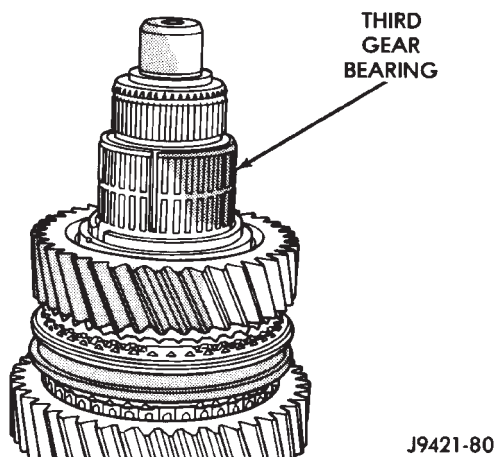

Fig. 73 Third Gear Bearing Installation
(27) Install third gear needle bearing on shaft (Fig. 73).